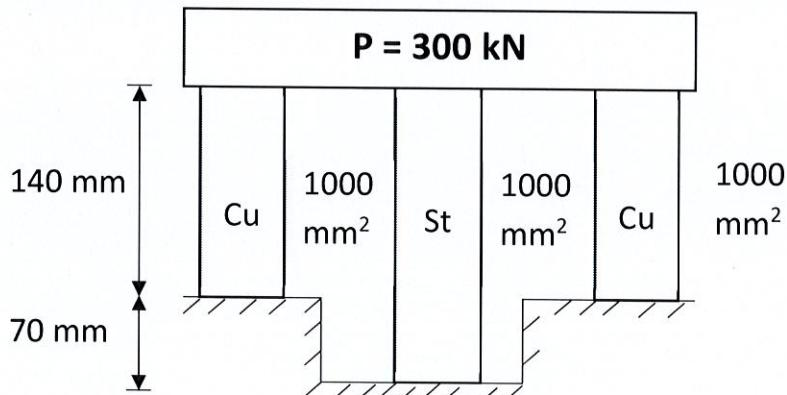

Figure 1(b) / Rajah 1(b)
- (c) Figure 1(c) below shows a composite bar made from aluminium and brass with a temperature of 40°C . Calculate the stress in each bar if the composite bar has been heated to 76°C . Given,